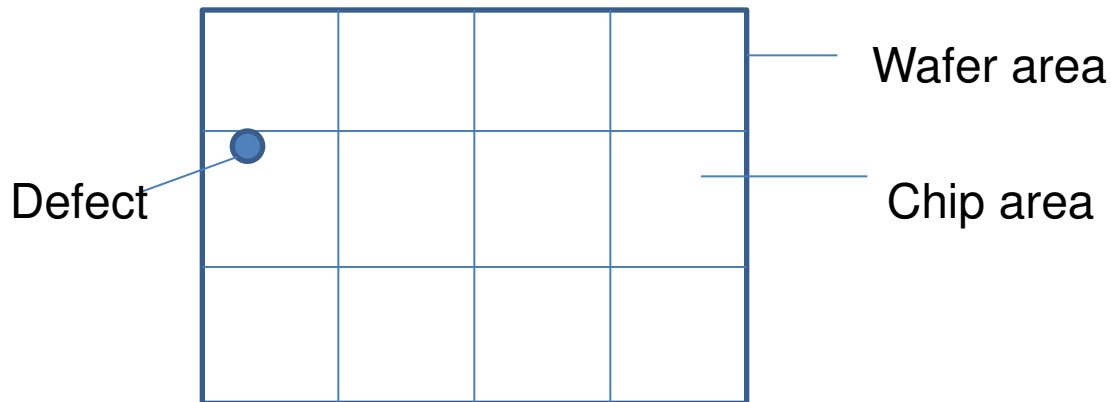

Figure 12. Defect distribution on wafer
- Defect normally occurs over the wafer surface(Figure 12).